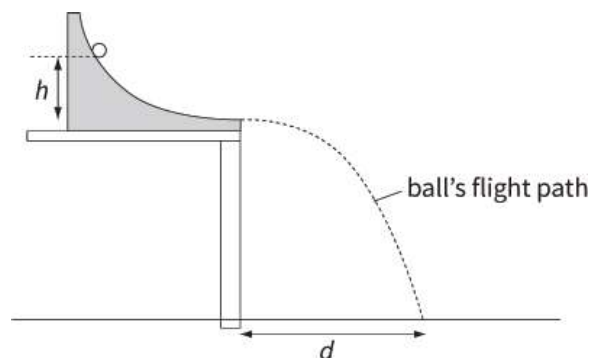

Figure P1.10: For Question 13.
- 13** A ball is allowed to roll down a ramp from different starting points. Figure P1.10 shows the apparatus used. The ramp is placed at a fixed height above the floor. You are asked to measure the vertical height h of the starting point above the bottom of the ramp and the horizontal distance d the ball travels after it leaves the ramp.